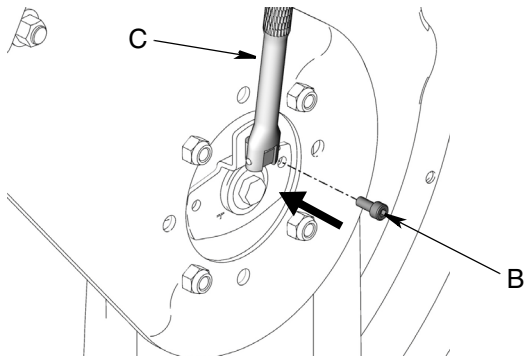

FIG. 22
5. Leave ratchet (C) in place. Replace one screw (B) (FIG. 22).